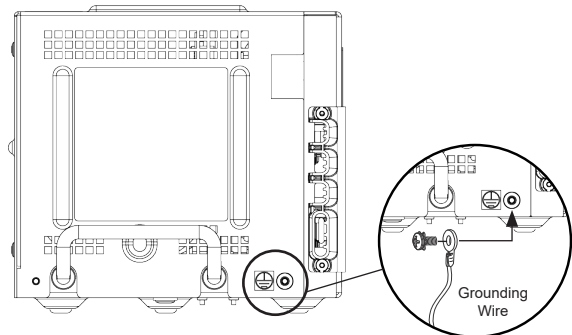

Fig. 8-14, Power Supply Ground
7. Using a user-supplied ground wire, connect the rack to the power supply ground by using the #10-32 ground stud Δ in **Fig. 8-11**. Connect the other end of the ground wire to the power supply using the ground screw provided (**Fig. 8-14**). Refer to applicable codes to determine additional grounding requirements.